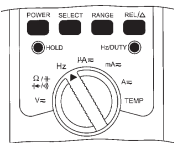

Fig. 1
2.5a) " Hz " position (Not for LINE Frequency measurement) [Fig.1]